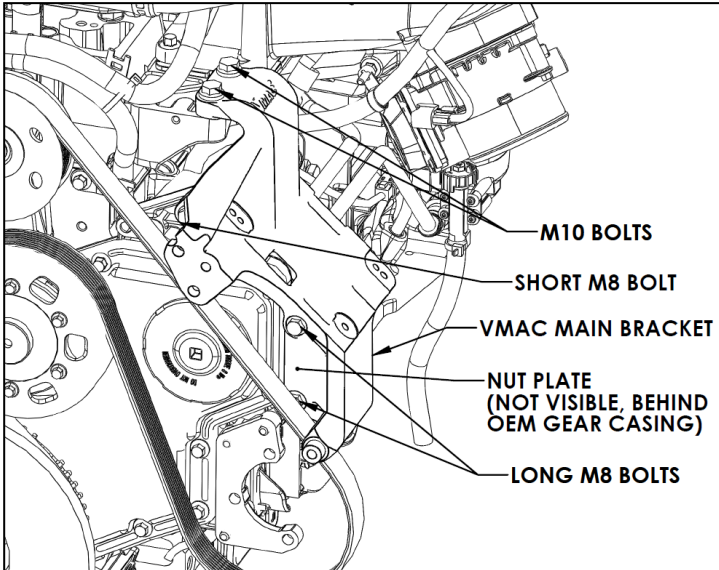

Figure 21 (Some components omitted for clarity)
- Position VMAC main bracket as shown in Figure 21 and install two M10 bolts finger tight into cylinder head.